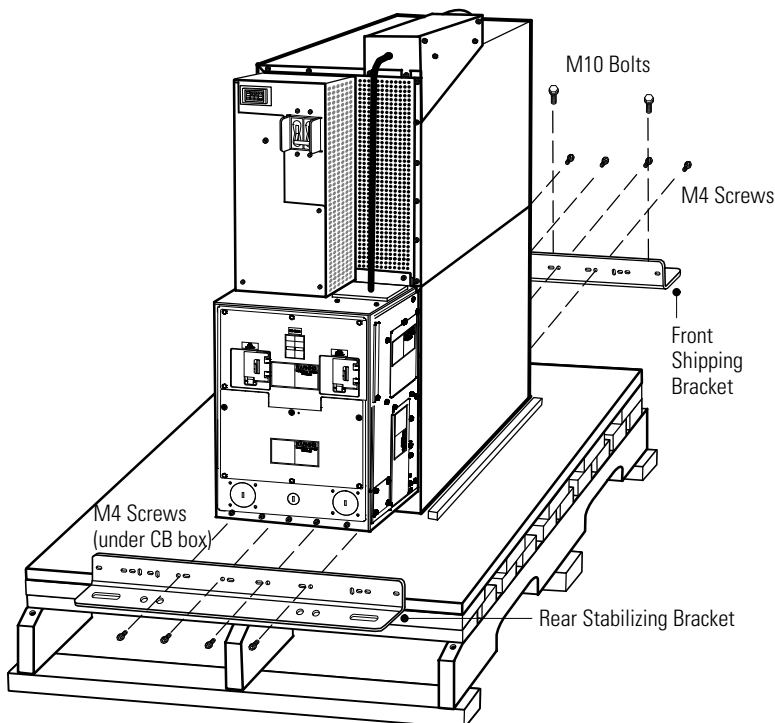

Figure 6. Removing the Brackets
7. Remove the four M4 screws securing the rear stabilizing bracket to the cabinet rear panel and remove the bracket (see Figure 6). Retain the hardware for later use.
8. Remove the two M10 bolts securing the front shipping bracket to the pallet. Remove the four M4 screws securing the bracket to the cabinet front panel and remove the bracket. See Figure 6.